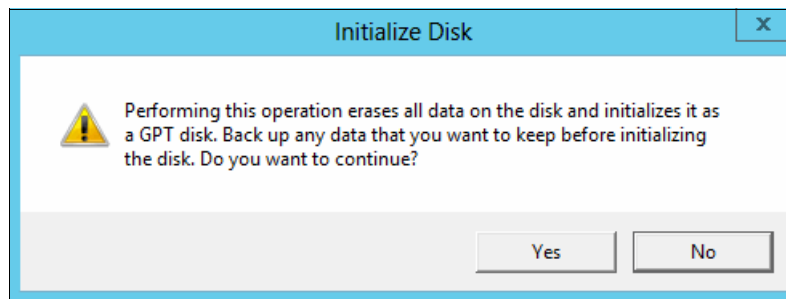

Figure 5-35 Confirm that you want to initialize the disk
- The window shown in Figure 5-35 opens. Click **Yes** to confirm that you want to initialize the disk.